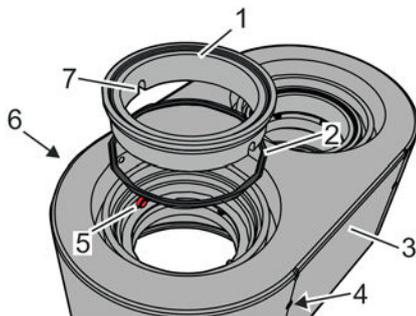

Fig. 124: Inserting the counter ring
10. Slide on the lightly lubricated O-rings (Fig. 124/2) onto the counter rings (Fig. 124/1) up to the collar.
! The counter rings (Fig. 124/1) are secured with the hold-down pins (Fig. 124/5) in the grooves (Fig. 124/7) to prevent them from turning.
11. Insert the counter rings (Fig. 124/1) with the O-ring (Fig. 124/2) on both sides into the bearing housing (Fig. 124/3).
12. Turn the counter rings (Fig. 124/1) until they engage in the grooves (Fig. 124/7).